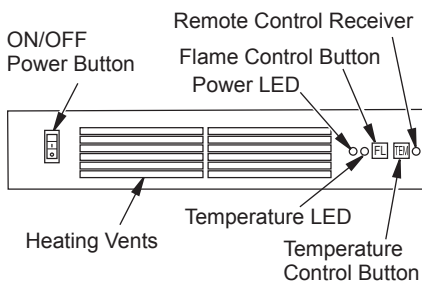

Figure 4 - Controls For Electric Fireplace
The controls (see Figure 4) are located behind the grill above screens and can be accessed by pulling the grill from the top, forward and down.
2. **Main ON/OFF Power Switch and LED:** This switch is located at the furthest left corner on the control panel. The power LED will light up when the unit is on (see Figure 4). When unit is on, the default settings for the fireplace is low background lighting and high ember bed and flame and the heater is off.
3. **Temperature Control Button and LED:** This button is located to the left of the Remote Control Receiver (see Figure 4). The LED is located to the left of the Flame Button. Push button to cycle through settings. When this button is pushed the LED will change to its corresponding color: Green for LO, Orange for MED and Red for HI. When heater is on heat will emit through vents located in the middle of the control panel (see Figure 4).
4. **Flame Control Button:** This button is located to the left of the Temperature Button (see Figure 4). After power is on, push the Flame Control Button to adjust flame and ember bed brightness. Press and release the Flame Control Button to cycle through LO, MED, HI and OFF.